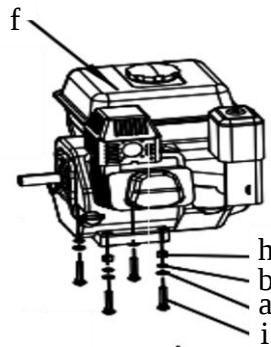

Fig. 3b
- Attach the engine using the supplied lock nuts (h), spring washers (b), flat washers (a), and carriage bolts (i). See Fig. 3b.